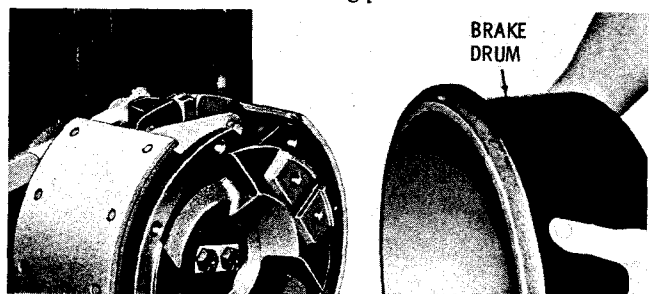

Fig. 7-127. Installing parking brake drum S1762
(17) Install the brake drum and retain it with eight 1/2-20 x 1-inch bolts and lockwashers (drum retained on some models by the output companion flange—no bolts are used). Tighten the bolts to 83 to 100 pound feet torque. See figure 7-127.
(18) Position the transmission to rest on the bottom of the transfer gear housing, keeping the front of the transmission slightly below horizontal.